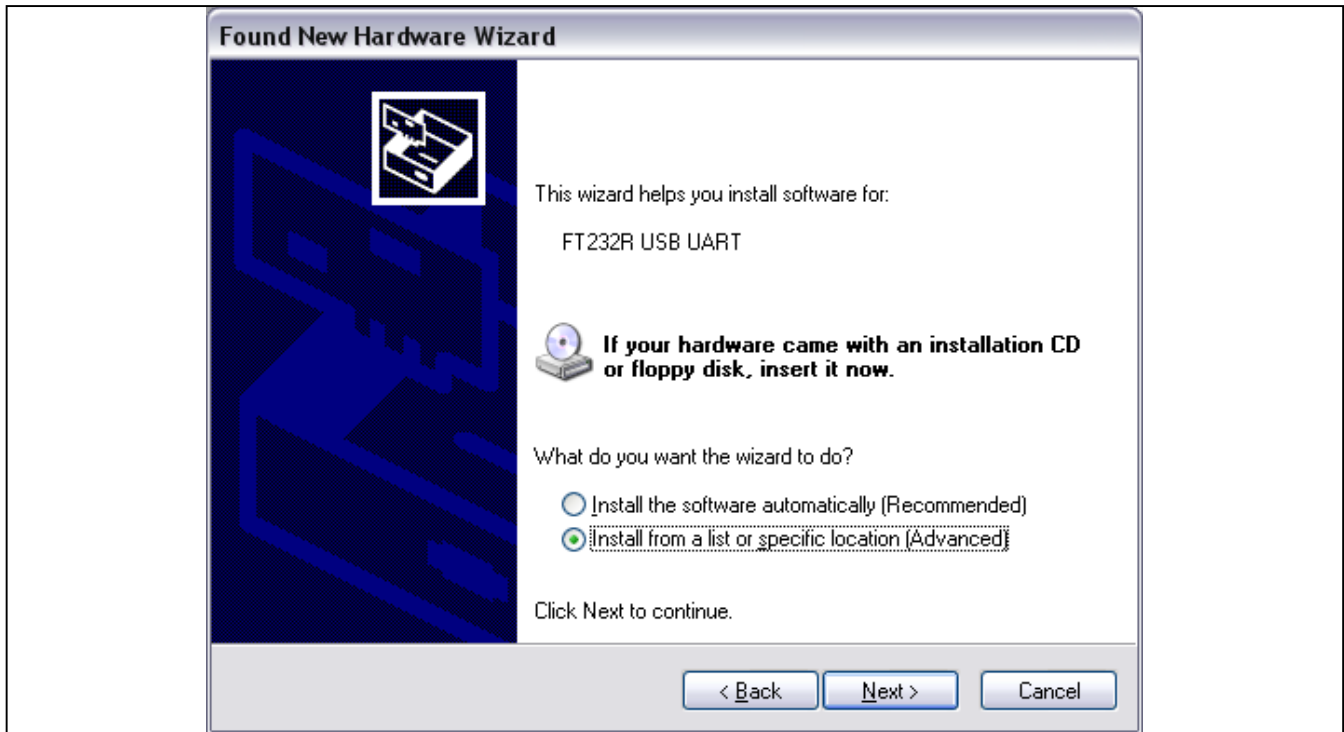

Figure 5. Driver Installation
- In the following dialog, select **Install from a list or specific location (Advanced)** (Figure 5) and click **Next** to continue.